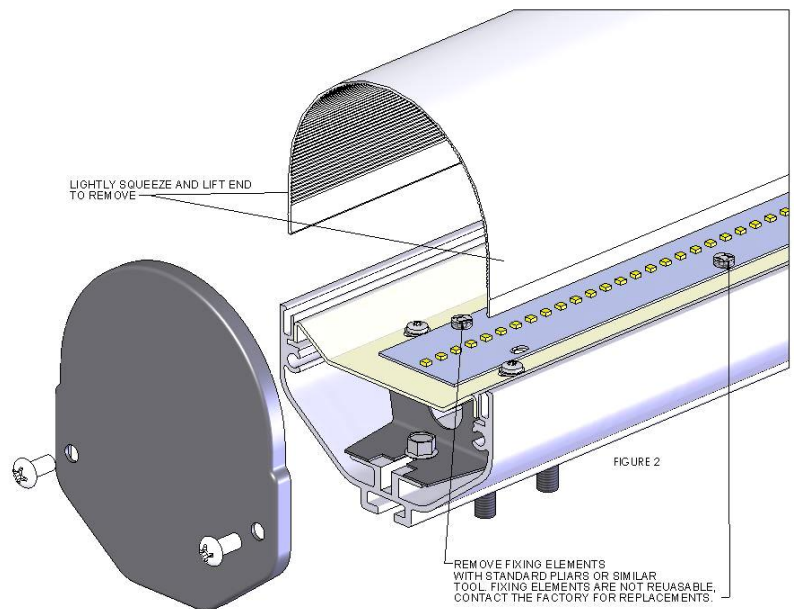

FIGURE 2
3. Remove the lens: Squeeze the end of the lens between your thumb and middle finger and gently pull the end of the lens from the housing as shown in figure 2.
5. Remove the led module fixing elements as shown in figure 2. The fixing elements may not be reusable. Contact the